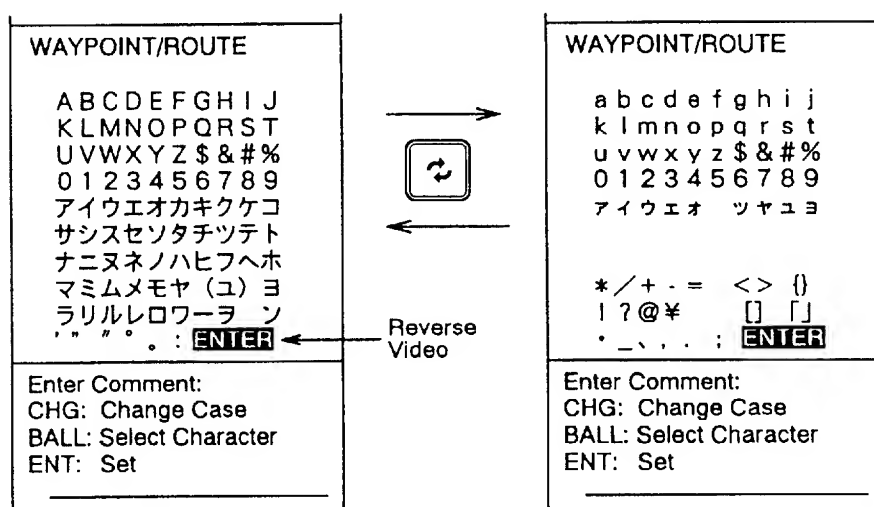

Figure 1-24 Characters available for comment
- 5) Your display should show a screen of upper case letters as shown in Figure 1-24. You can also use lower case letters in your comment. The **CHG** key serves to switch between upper and lower case letter sets.